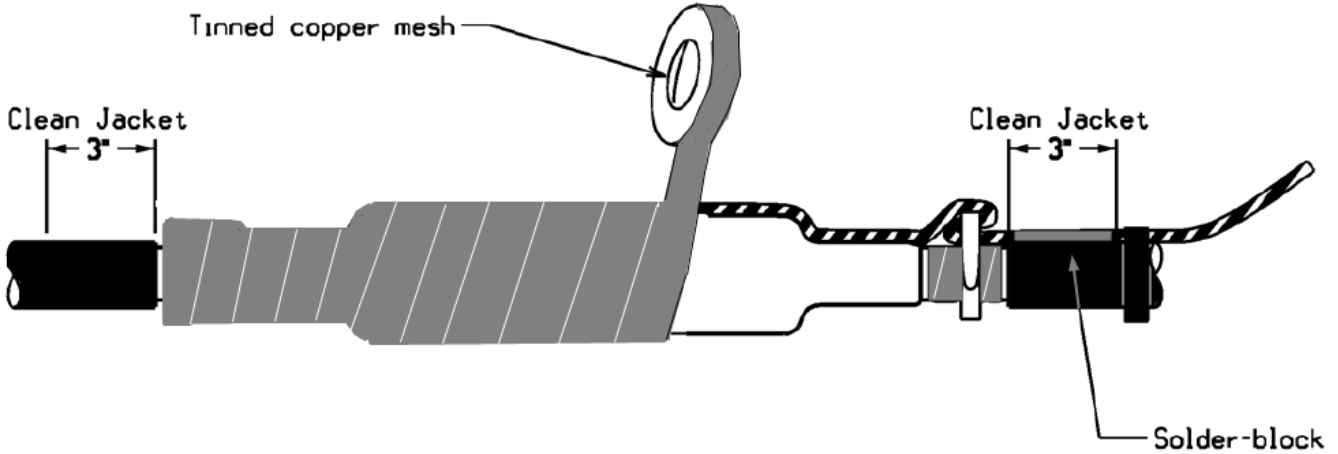

Figure 16
- Apply 2 half-lapped layers of tinned copper mesh to provide mechanical protection and a smooth surface for the outer jacket of the splice. Tie off on the opposite side, clean the cable jackets for 3" from the jacket cutbacks. Refer to Figure 16.